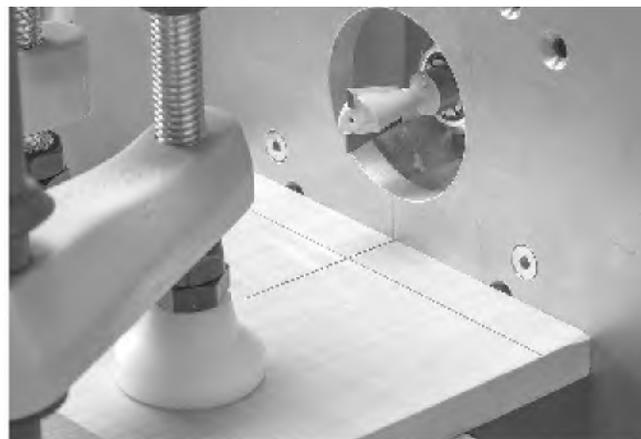

FIGURE 1. Carefully aligning the center of your stock with the center of the Vertical Table ensures even spacing at the ends of the board.
9. Position the work piece on the Horizontal Table, flush and square against the Vertical Table and with the stock's centerline aligned to the centerline on the Vertical Table. Clamp the stock in place. **FIGURE 1.**